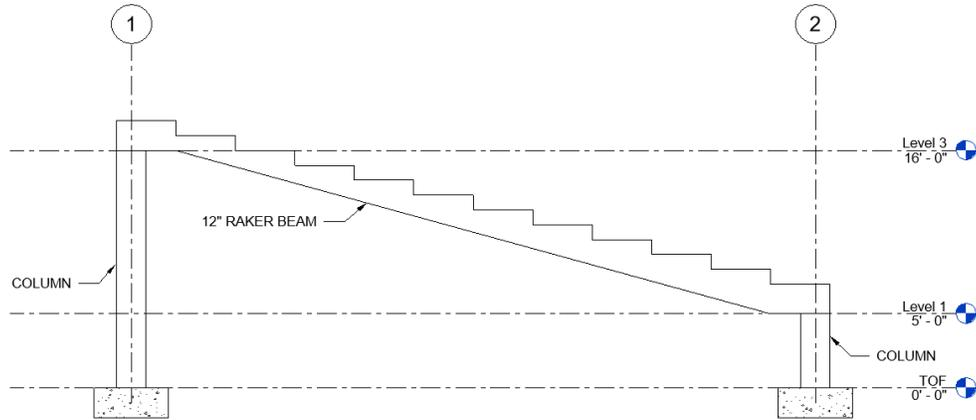

Figure 4: Typical Raker Beam elevation
There will be 12” thick raker beam with (12) steps bearing on each column along the letter grid lines and will support the horizontal landings for the seats, refer to figure 4.